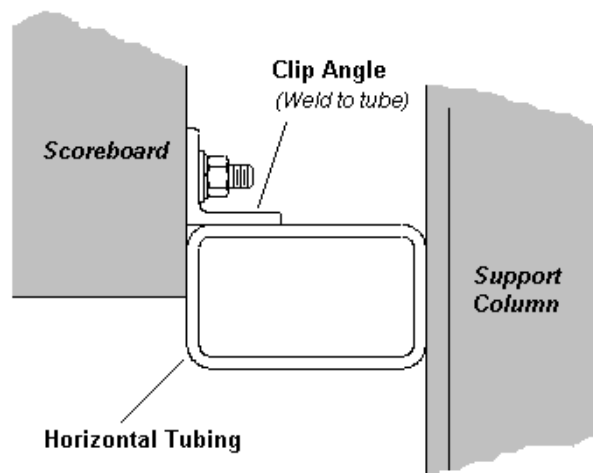

Figure 6: Mounting Display To Tubing
3. Adjust the clip angles so that they are firmly against the horizontal beam, as shown in **Figure 6**. During the installation of the first section, carefully monitor the horizontal and vertical straightness of the display. If the mounting structure does not provide a straight or square mounting surface, it will be necessary to place shims between the display section and the mounting surface to ensure straightness of the scoreboard/display section.